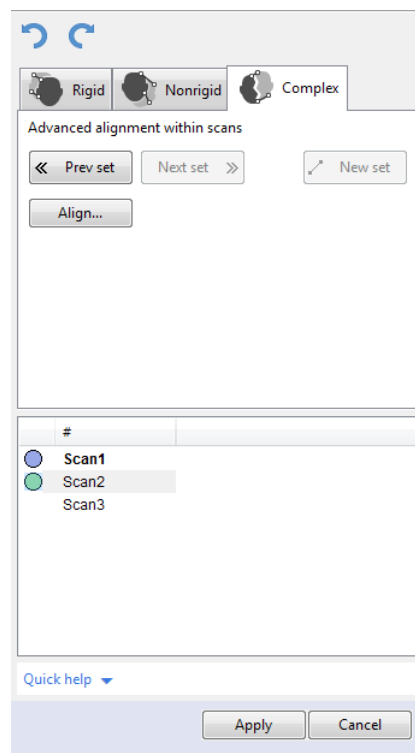

Figure 77: *Align* panel: *Complex* tab.
1. Make sure the *Complex* tab is selected (see Figure 77).